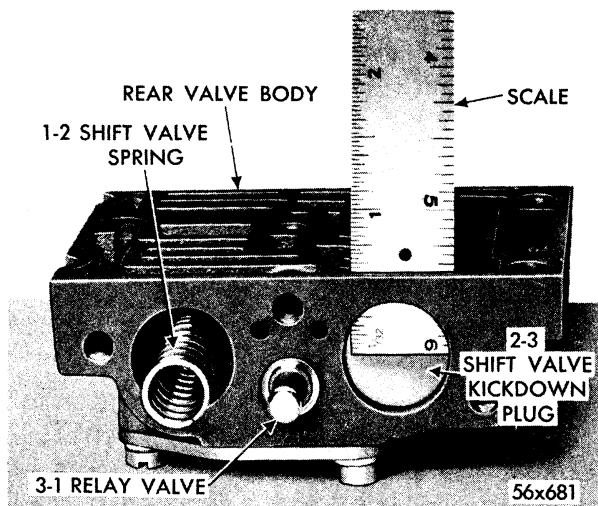

Fig. 109—Using Scale to Hold 2-3 Shift Valve Kickdown Plug in Body During Assembly
Place the 2-3 shift valve kickdown plug (D) (identified by larger pilot) over 2-3 shift valve spring (I). Compress spring sufficiently to seat plug in valve body and secure by placing a thin piece of metal (6" scale) behind plug, as shown in Figure 109. Install the 3-1 relay valve (F) (large end first) into valve body and place spring (E) on pilot. Place the 1-2 shift valve kickdown plug (C) over the 1-2 shift valve spring (G). Place kickdown plug cover over 3-1 relay valve spring and 1-2 kickdown plug. Compress springs and guide the 1-2 kickdown plug into valve body. Install the three cover screws and lockwashers and draw down evenly and tighten. Remove piece of metal or 6" scale.